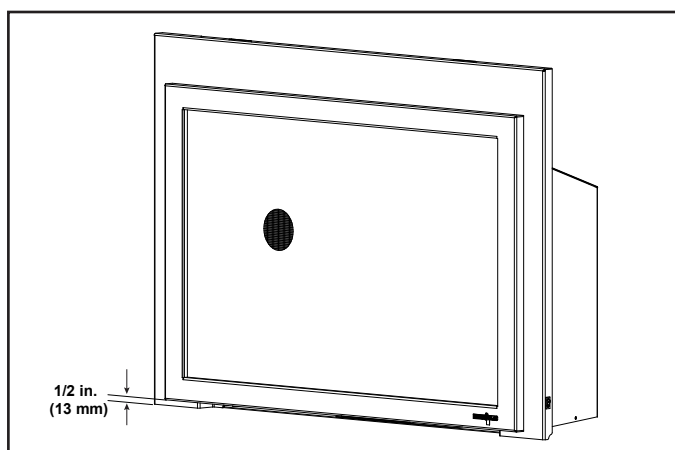

Figure 3.14 Minimum Required 1/2 in. (13 mm) Gap to Bottom of Front
- 1/2 in. (13 mm) gap under the bottom of the front must be maintained. See Figure 3.14.